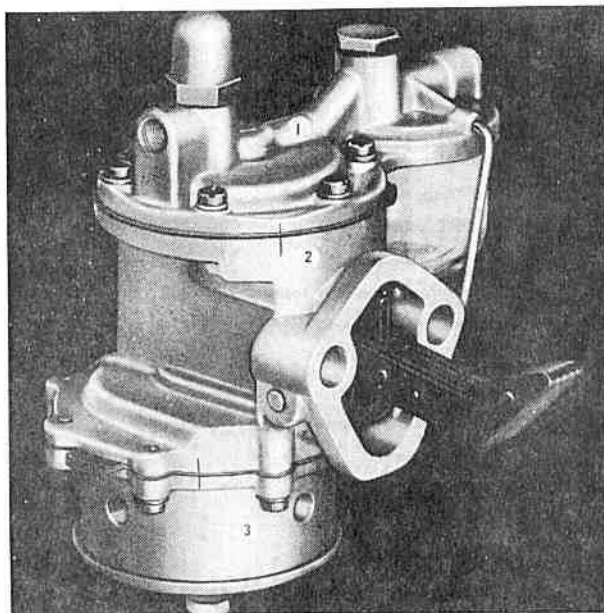

FIG. 389
Mark the edges of fuel cover (1, Fig. 389), vacuum cover (3), and body (2) diaphragm flanges with a file so that the parts may be reassembled in their original positions. Note that the fuel diaphragm flange is symmetrical and the vacuum diaphragm flange has bulges where the screw holes occur.